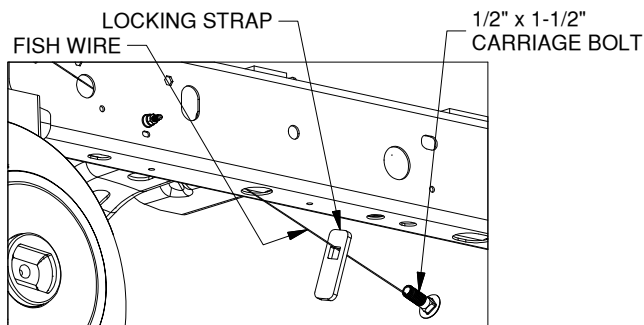

Figure B2: View looking at driver side frame under bed.
- 2. Thread fish wire through frame.** Insert the coil end of the fish wire into the 1" round hole and fish it through the frame towards the rear of the truck and out the larger hole in the bottom of the frame. Pass the locking strap onto the fish wire and attach the coil end of the fish wire to the carriage bolt. To keep the hardware from getting hung up inside the frame, the locking strap and the bolt need to go through the frame separated, not with the bolt through the square hole in the strap, see Figure B2.